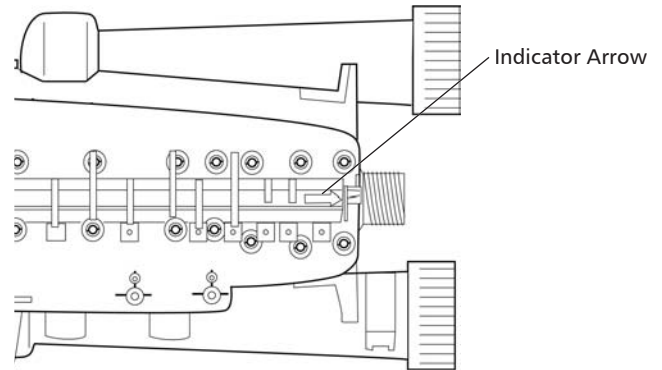

Figure 12: Top-down view of valve
3. Align the indicator arrow on the rear of the camshaft with the top of the rear hoop of the top plate (Figure 12).